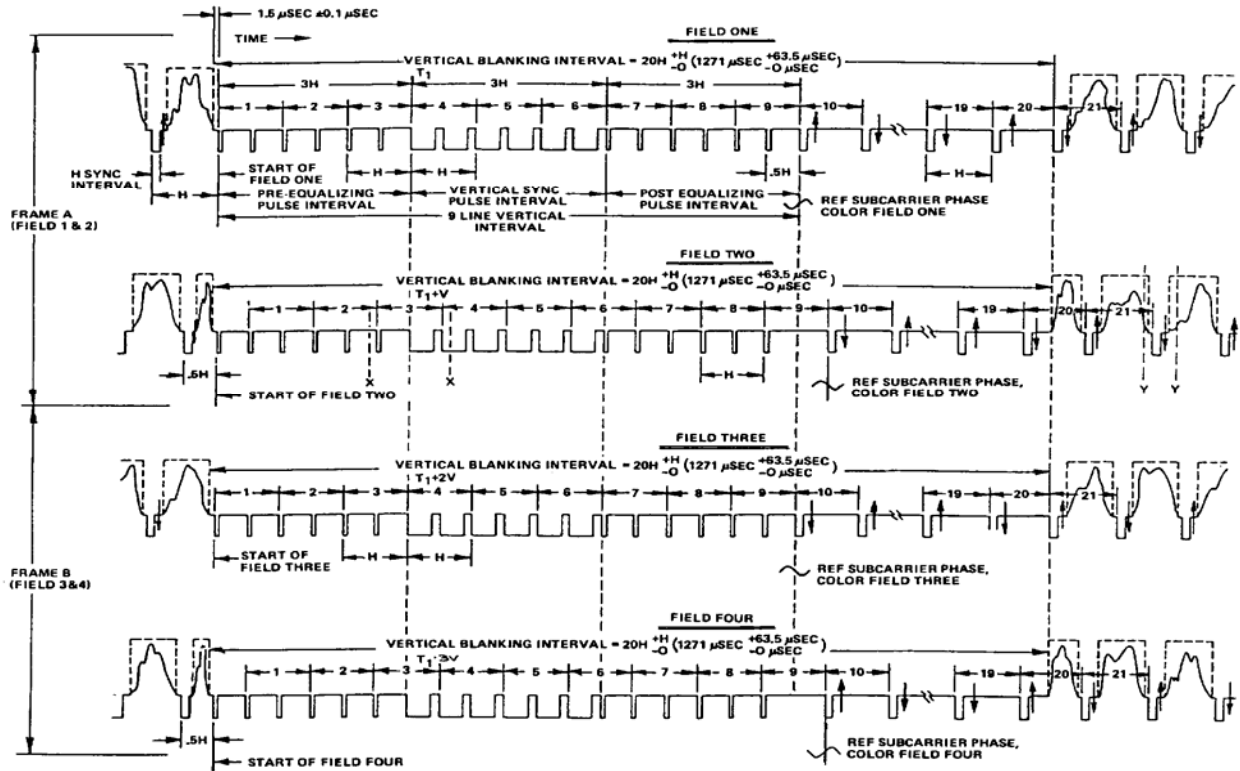

Figure S-4. Vertical and Horizontal Interval (part one)
a. Horizontal Synchronizing Pulses (Horizontal Sync). In Figure S-4, horizontal sync pulses are rectangular and occur at the end of each horizontal scanning line. The purpose of the horizontal sync pulses is to synchronize the horizontal scanning motion in the receiver precisely with the horizontal scanning motion of the camera at the picture point of origin. The horizontal sync pulses are part of the transmitted composite video signal and occur at intervals of 63.5 microseconds (usec). This is the time between the start of one scanning line to the start of the next scanning line.
(1) Each horizontal sync pulse rides on a corresponding blanking pulse, but has duration less than that of a blanking pulse.
(2) In Figure S-4, the leading edge is delayed with respect to the leading edge of the blanking pulse upon which it rides. This delay forms a step in the composite signal known as the front porch.
(3) Similarly, the step formed by the difference between the trailing edges of the sync pulse and the blanking pulse is called the back porch. The front porch is of very short duration and ensures that the scanning beam of the receiver extinguishes completely before the start of horizontal retrace. The back porch eliminates unwanted disturbances in the video signal after the sync pulse, before the scanning beam turns on.
c. Vertical Synchronizing Pulse (Vertical Sync). Vertical sync pulses (Figure S-4) are rectangular pulses that synchronize the vertical scanning motion in the receiver precisely with the vertical scanning motion of the camera at the program originating point. These pulses are part of the transmitted composite video signal and have a frequency of 60 Hz. The vertical sync pulses have a duration of $3H$ versus $0.08H$ for horizontal sync pulses ($1H$ is equal to 1 horizontal line or 63.5 usec) which makes possible the separation of vertical and horizontal sync pulses by relatively simple frequency separation circuits.
d. Corresponding Blanking Pulse. Each vertical sync pulse rides on a corresponding blanking pulse. As shown in Figure S-4, each vertical pulse has six slots, making it appear to be a series of six wide pulses at twice the horizontal frequency. The slots provide nothing of value as vertical synchronizing information, but do provide uninterrupted information to the horizontal scanning circuits.
(1) The width of the slots in the vertical sync pulses is approximately equal to the width of the horizontal sync pulses ($0.07H$ versus $0.08H$). The slots are made as wide as possible so that noise pulses or other discrepancies occurring just before the leading edge of a slot do not disturb synchronization.
(2) To eliminate problems of nonuniform spacing of the scanning lines as the system scans successive fields horizontally, and to maintain continuous horizontal synchronizing information throughout the vertical synchronization and blanking interval, it adds another series of pulses called equalizing pulses to the composite video signal.
e. Equalizing Pulses. Equalizing pulses (Figure S-4) occur in groups of six before and after each vertical sync pulse. Each group has a duration of $3H$. These pulses are part of the transmitted composite video signal.
(1) The equalizing pulses serve two purposes in getting good vertical picture resolution at the receiver.